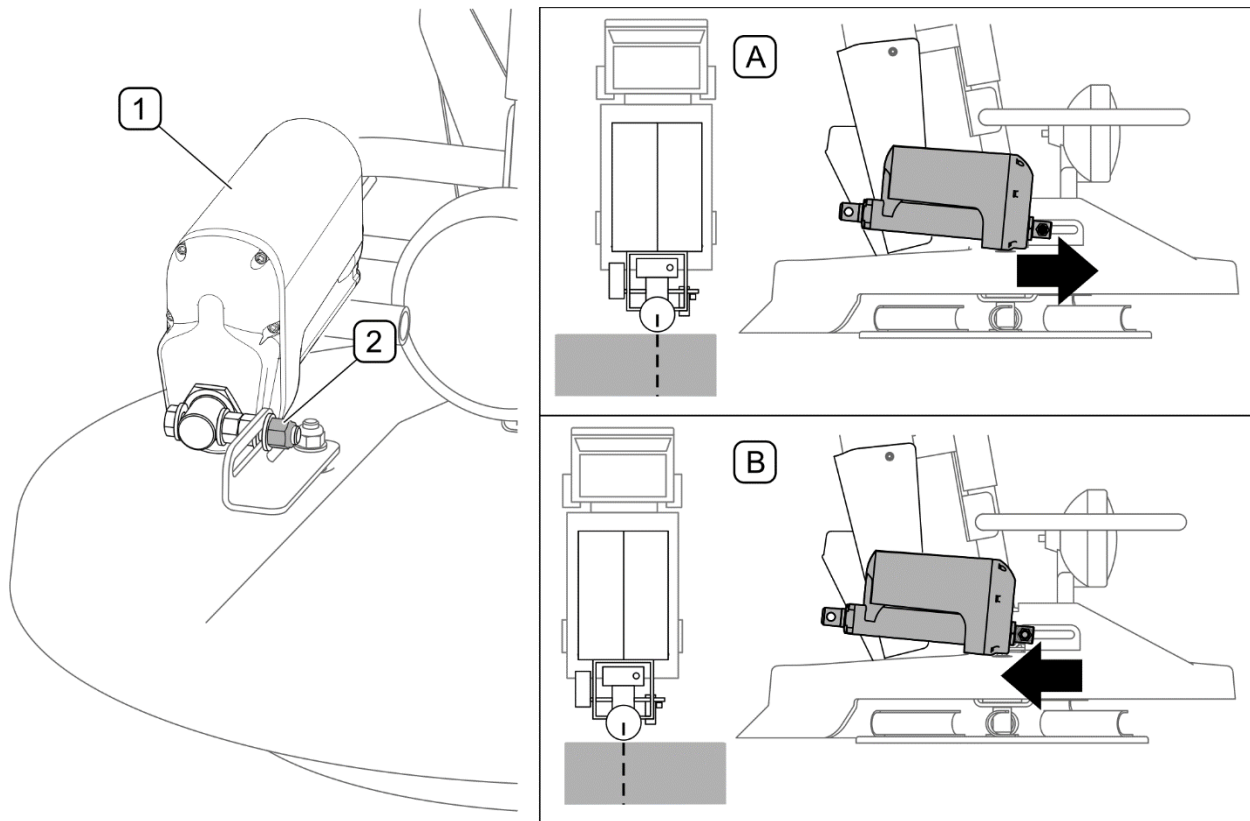

FIGURE 5.13 Adjustment of spreading mechanism
(1) - spreading direction adjusting cylinder; (2) - nut; (A) - spreading zone excessively shifted to the left, (B) - spreading zone excessively shifted to the right,
In order to adjust the spreading mechanism, set symmetric 4 meter-wide spreading zone on the control panel. Activate spreading and drive a short distance at a constant speed. Stop the vehicle and check effect of spreading. If spreading to the right side and to the left side is not the same, adjust spreading direction adjusting cylinder (1) (FIGURE 5.13) as follows:
- Loosen nut (2).
- Move cylinder (1) forwards if spreading zone is excessively shifted to the left (A).
- Move cylinder (1) backwards if spreading zone is excessively shifted to the right (B).
- Tighten nut (2), conduct test spreading, if necessary, repeat the adjustment.